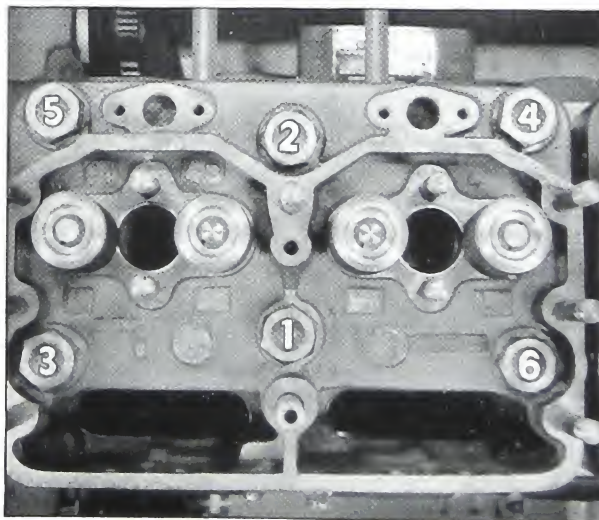

Fig. 12-2. Routine for tightening cylinder head nuts
4. Install the head stud nuts and tighten to 225/275 foot-pounds in order shown in Fig. 12-2.
5. Tighten the head stud nuts in 50 foot pound increments, in the order shown in Fig. 12-2, to 325/350 foot pounds.